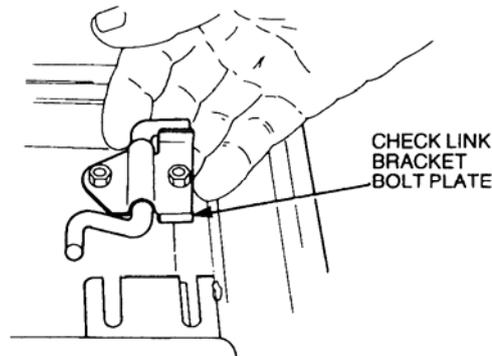

Figure 30 Check Link Bracket Removal
- gg. Loosen the nuts securing the door check link to the door (refer Figure 30).
- ff.** Install the door check link torsion bar and bracket assembly (refer Figure 30).